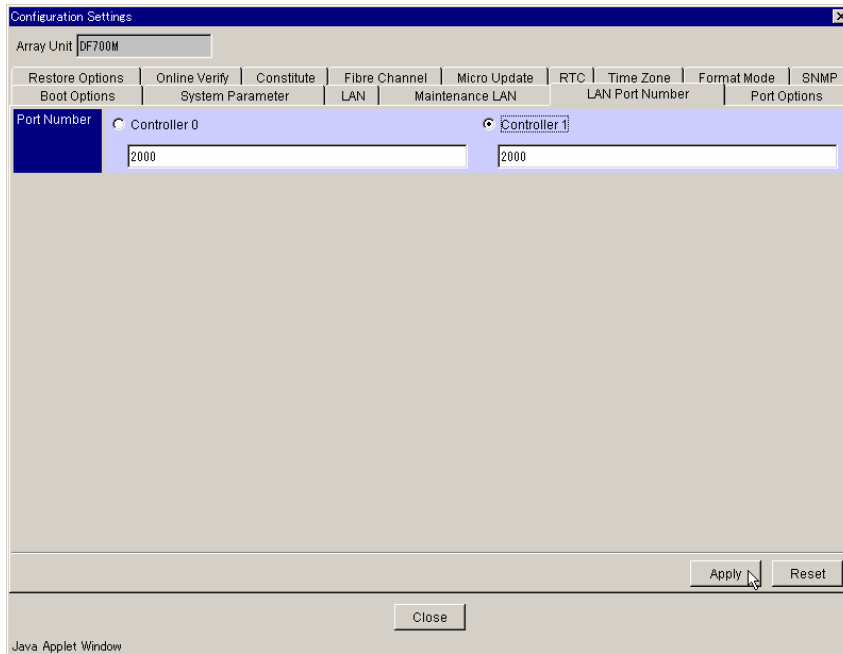

Figure 9.15 Configuration Settings - LAN Port Number
2. Click the **LAN Port Number** tab. See Figure 9.15.